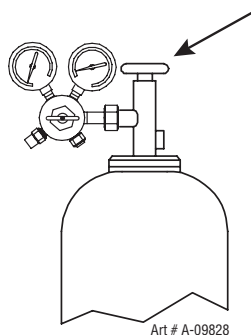

Figure 3-3: Open Cylinder Valve
9. Slowly and carefully open the cylinder valve (Figure 3-3) until the maximum pressure shows on the high pressure gauge.